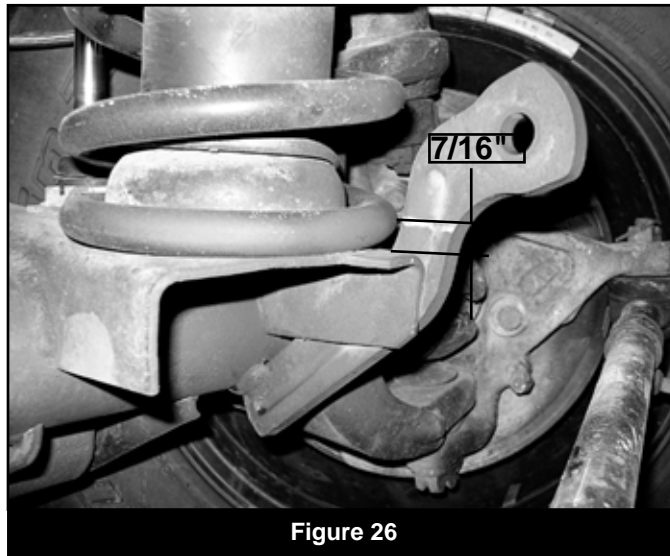

Figure 26
65. The front sway bar link axle mounts must be cut off to provide proper steering linkage clearance through full suspension travel. Starting on the driver's side, make a cut mark on the axle link mount that is  $7/16$ " above the top surface of the axle coil mount. This mark will be approximately  $2-3/16$ " from the top point of the OE link mount (Fig 26).